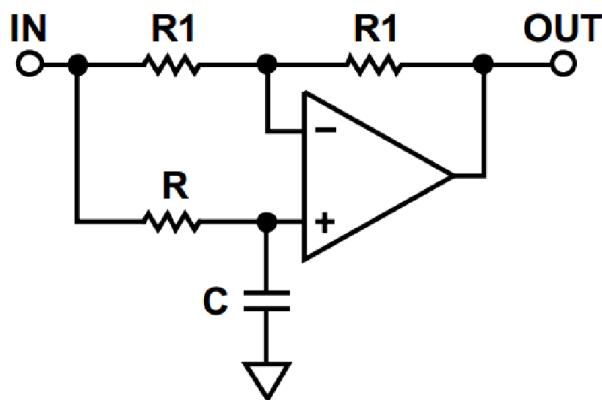

Figure 17. All-pass filter
(1) All characteristics are measured under open-loop conditions with zero common-mode voltage, unless otherwise specified. Full range for TA is 0°C to 70°C for TL08_C, TL08_AC, TL08_BC and -40°C to 85°C for TL08_I.
(2) Input bias currents of an FET-input operational amplifier are normal junction reverse currents, which are temperature sensitive, as shown in Figure 17. Pulse techniques must be used that maintain the junction temperature as close to the ambient temperature as possible.